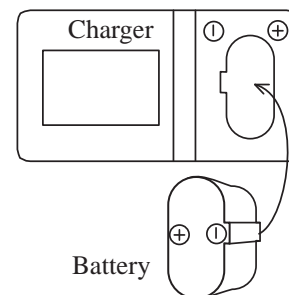

Fig. 1A
(1) How to find a broken fuse
- If the above phenomenon appears after forcing the battery to insert with wrong direction as illustrated in Fig. 1A, fuse can be damaged.